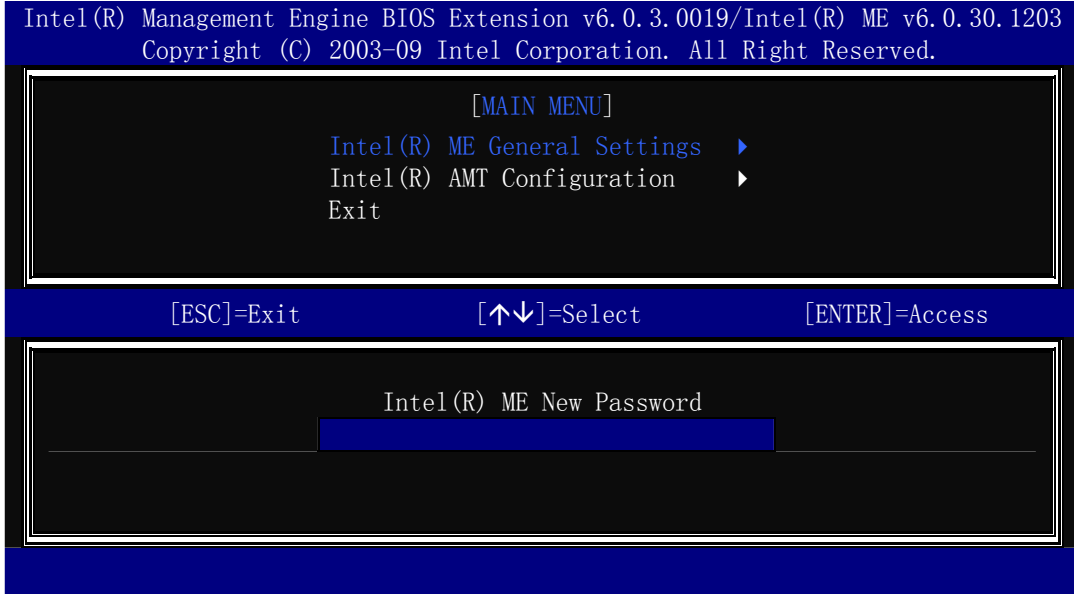

Figure A-3: Intel® ME New Password
Step 3: Enter a new password following the strong password rule (containing at least one upper case letter, one lower case letter, one digit and one special character, and be at least eight characters). (**Figure A-3**)